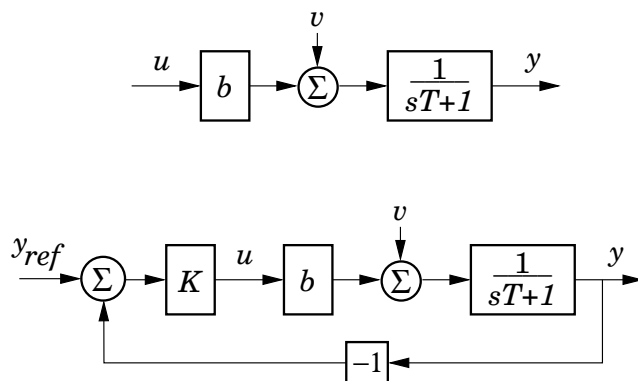

Figure 7.1 The open-loop system (upper) and closed-loop system (lower).
7.4 a. The open-loop and closed-loop systems are shown in Figure 7.1.